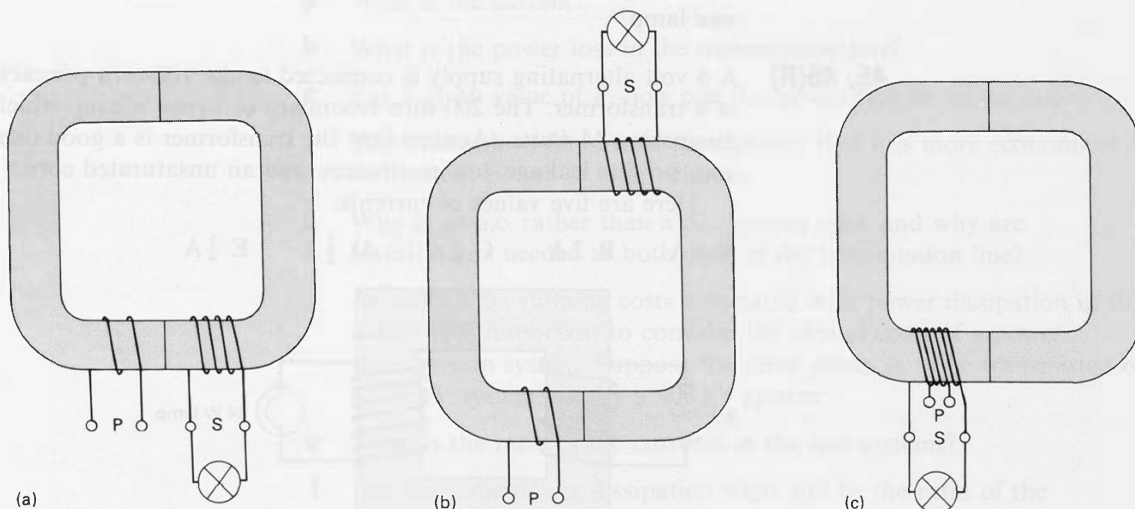
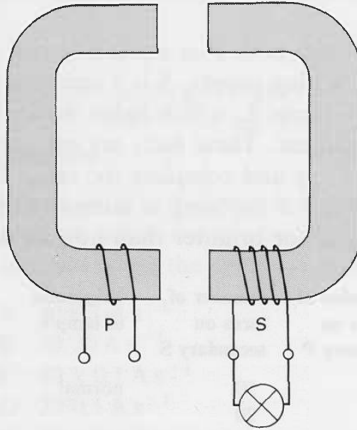

Figure H96
Figure H97
44(P) Figure H96 shows three different arrangements of the same transformer. P is a primary coil of 20 turns, always connected to a one-volt alternating supply. S is a secondary coil of 50 turns, joined to a 2.5 V lamp. In figure H96(c) the secondary is wound on top of the primary. The coils are wound on a double C-core.
- b** Figure H97 shows the arrangement of figure H96(a) with the two C-cores slightly separated. This gives a different result: the lamp lights only very dimly. Why does separating the two iron cores of a transformer cause it to work much less efficiently?
- c** If the iron C-cores in the arrangement of figure H96(c) are slightly separated, the lamp lights dimly. Why is this?
- d** Look again at figure H96. Suppose that a transformer is made by winding all three secondary coils and the single primary coil on the same pair of C-cores. Each secondary is joined to a lamp, and all three lamps are found to light normally. How do you explain this result?